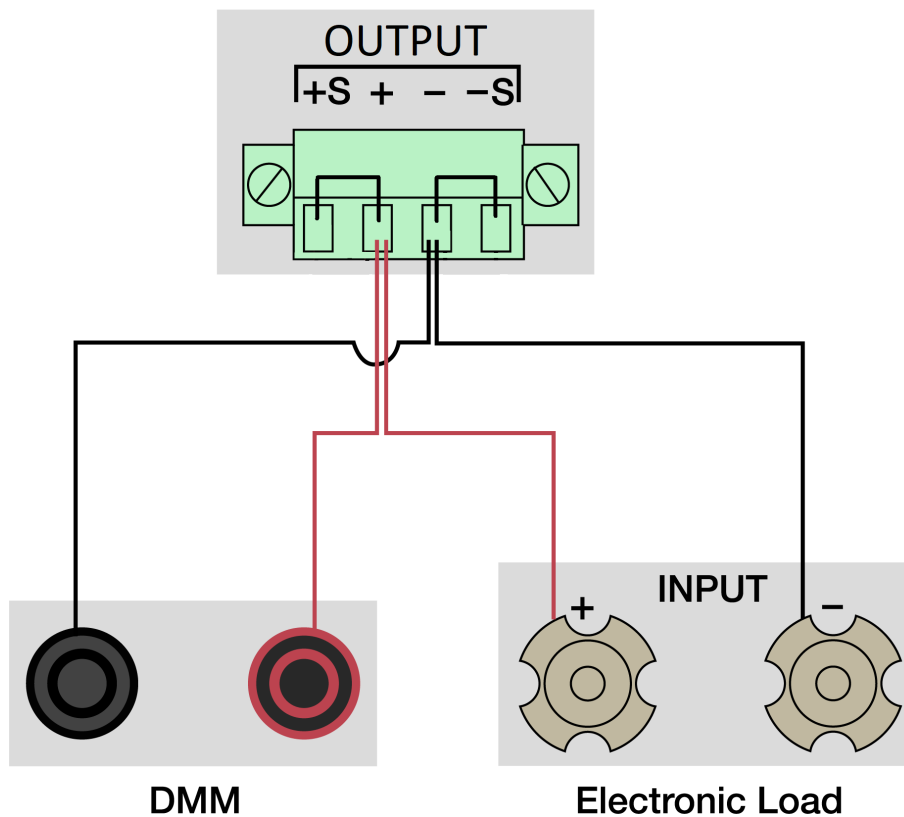

Figure 12.2 Rear Panel Wiring Diagram
2. Connect the: DMM, electronic load, and the rear panel remote sense to the power supply's rear +/- terminal being tested. Use jumpers to connect the +S to + and -S to -. See figure 12.2 (Remote sense must correspond with the channel being tested.)